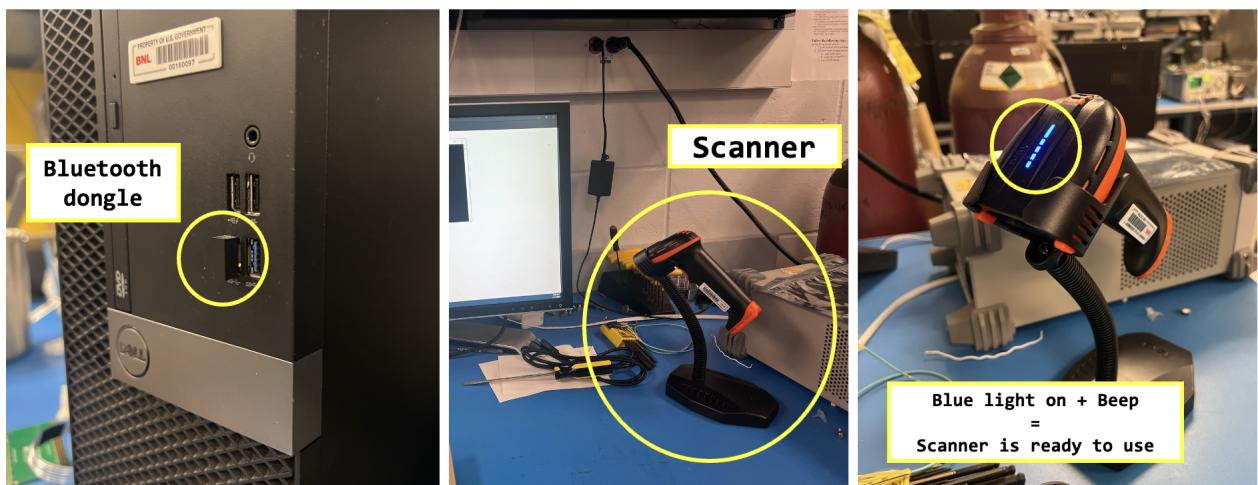

Figure 25: Bluetooth dongle connected to the PC (left). Code Scanner is ready to use (right).
2. Find the Code Scanner and ensure its Bluetooth dongle is plugged into the PC. Next, power on the scanner by pressing the trigger. The scanner is ready for use when the blue light illuminates and it emits a series of *beeps* (Figure 25).